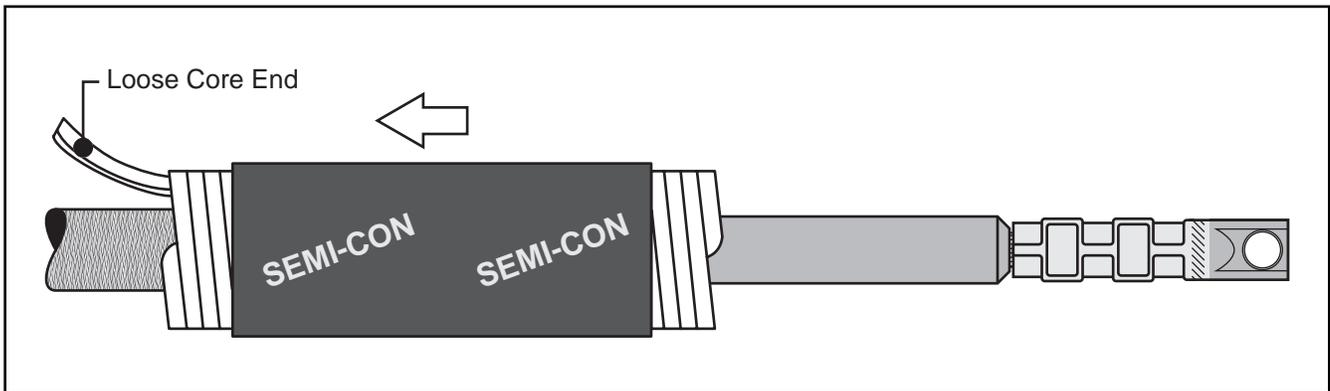

Figure 5
3.1 Slide a semi-conducting cold shrink tube over each phase conductor with the loose core end leading (facing the cable breakout). (Figure 5.)